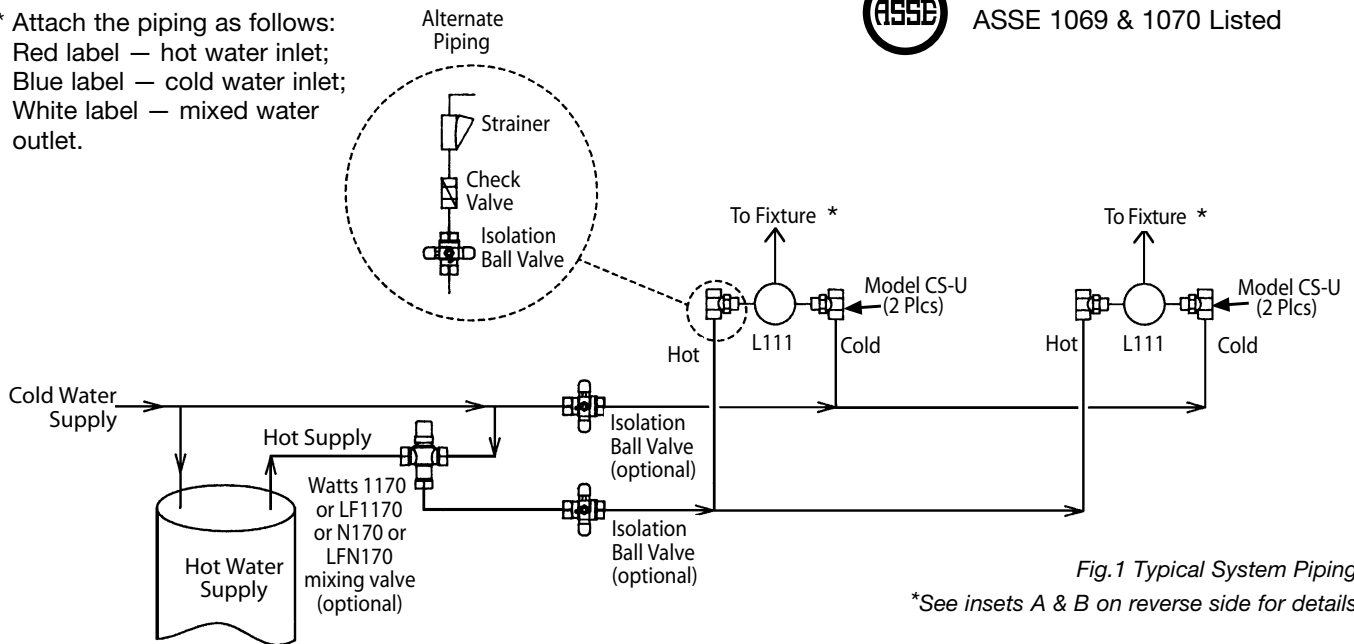

Fig.1 Typical System Piping.
3. Connect the water supply to the L111 valve as shown in Fig. 1. Supply piping must be flushed clean before making connections to the valve.